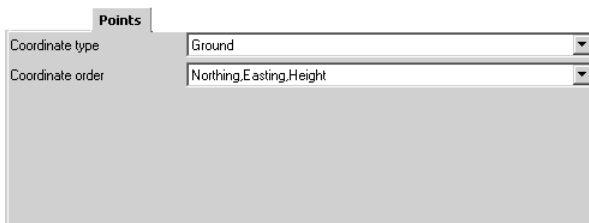

Figure 5-10. Points Tab
- The *Points* tab (Figure 5-10) sets a coordinate type and a coordinate order.